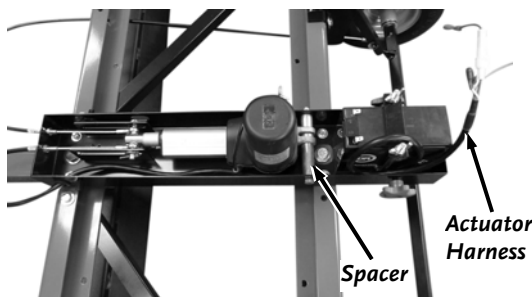

Figure 29
48. Route the Actuator Harness along the left side of the Actuator and under the Spacer (**Figure 29**).